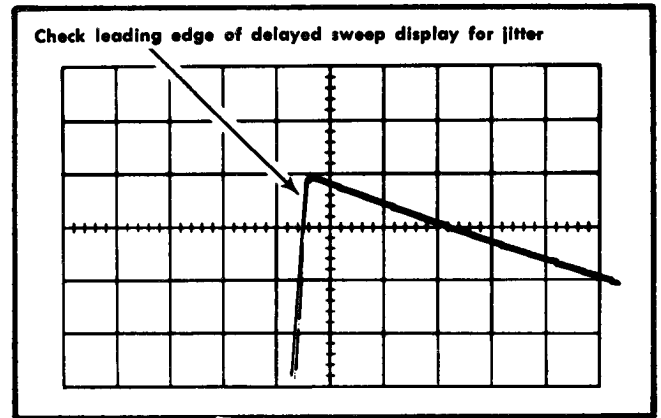

Fig. 6-49. Typical CRT display when checking delay-time jitter.
- c. CHECK-Jitter on the leading edge of the pulse should not exceed 0.5 division (one part in 20,000; see Fig. 6-49). Disregard slow drift.
- e. CHECK-Jitter on leading edge of the pulse should not exceed 0.5 division (see Fig. 6-49]. Disregard slow drift.